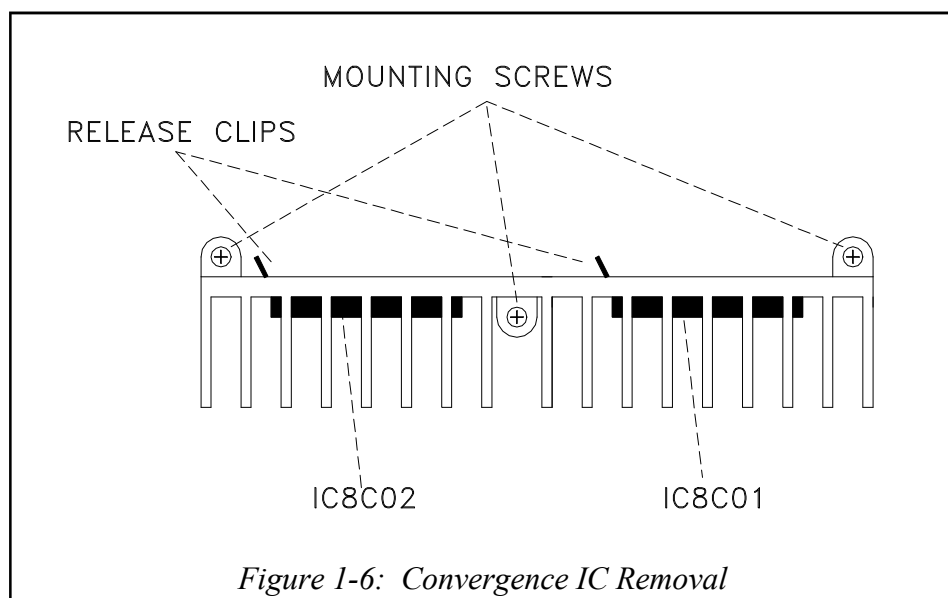

Figure 1-6: Convergence IC Removal
- 2) Remove the 3 mounting screws shown in Figure 1-6.